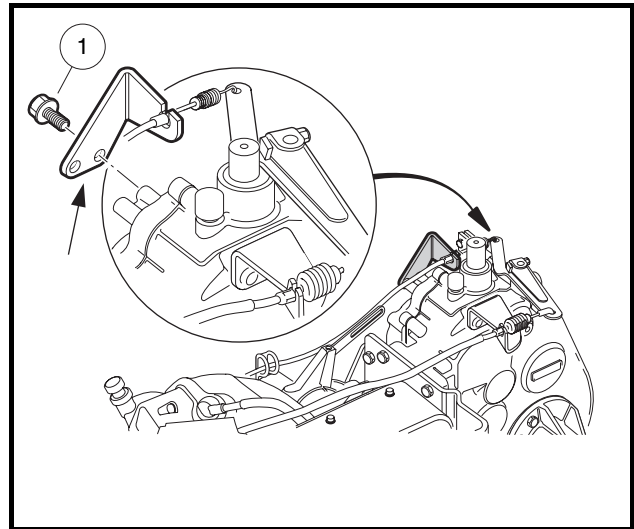

Figure 19-33 Accelerator Cable Bracket
20. Remove screws (1) securing the accelerator cable bracket to transaxle (**Figure 19-33, Page 19-13**).
6. Install the accelerator cable bracket on transaxle case. Tighten the mounting screws to 134 in-lb (15.1 N·m) (**Figure 19-33, Page 19-13**).